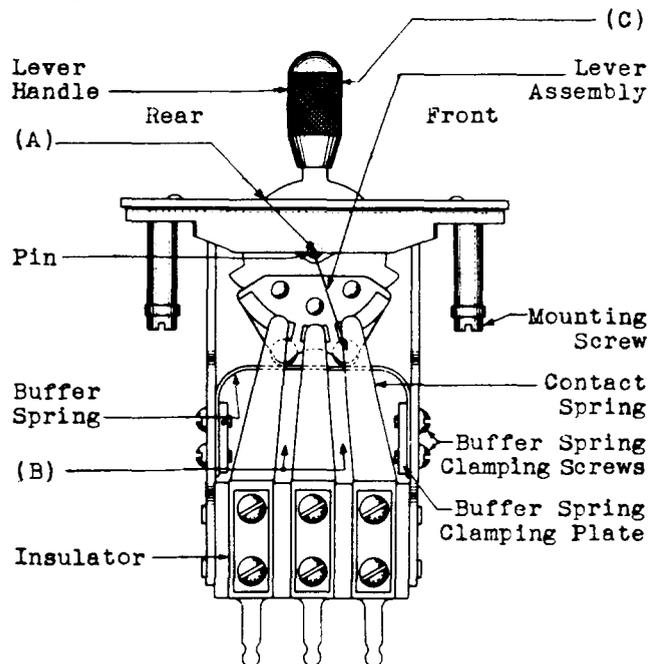
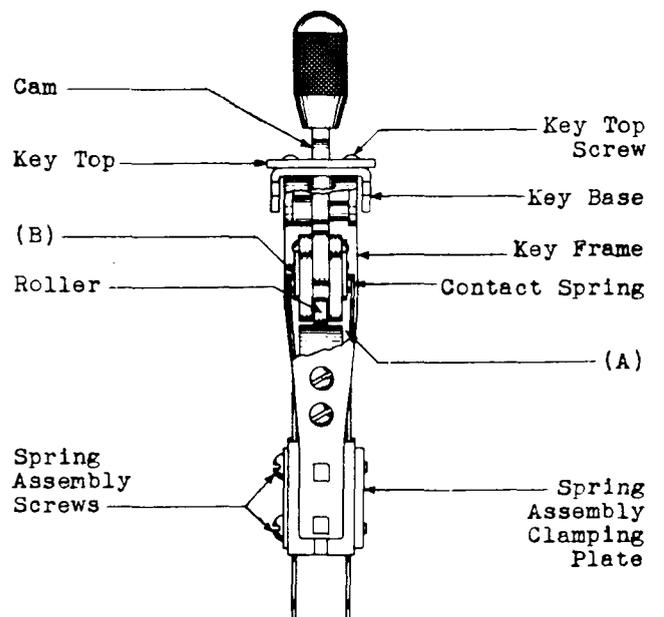

Fig. 1 - C4 Type Key
Fig. 2 - C4 Type Key
*2.02 Lever Movement - Fig. 1 (A): The rollers and cam shall turn freely in their bearings. Gauge by eye and by feel.
*2.03 Spring Clearance - Fig. 1 (B) and Fig. 2 (A): There shall be a clearance between springs designed never to make contact and between any spring and the frame whether in the operated or unoperated position of the key of:
***2.05 Contact Pressure - Fig. 2 (B)**
2.06 Lever Operate Pressure - Fig. 1 (C)